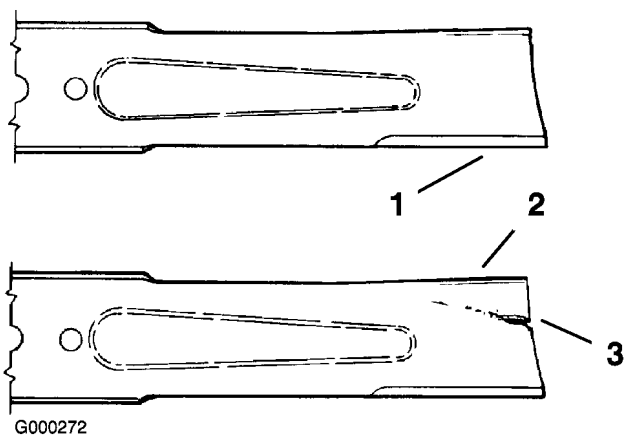

Figure 55
1. Inspect the cutting edges (Figure 55). If the edges are not sharp or have nicks, remove and sharpen the blades. Refer to Sharpening the Blades.
2. Inspect the blades, especially the curved area (Figure 55). If you notice any damage, wear, or a slot forming in this area (Figure 55), immediately install a new blade.